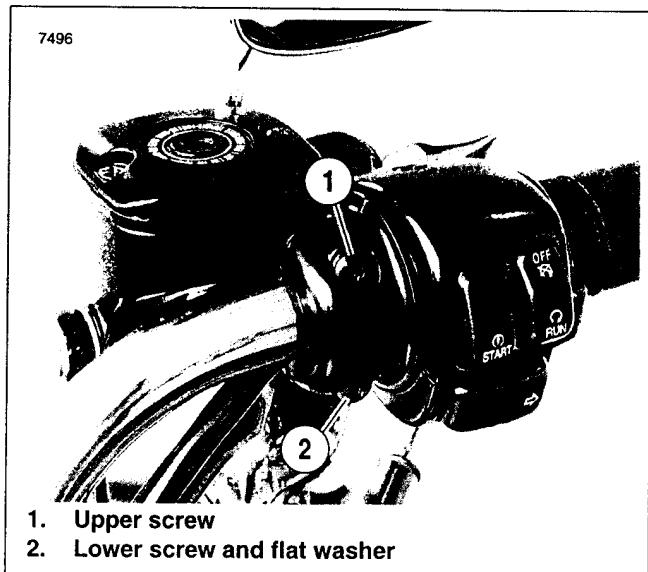

Figure 8-79. Handlebar Clamp Screws
- See Figure 8-79. Using a T27 TORX drive head, loosen the upper screw (1) securing the handlebar clamp to the master cylinder housing. Remove the lower clamp screw with flat washer (2).